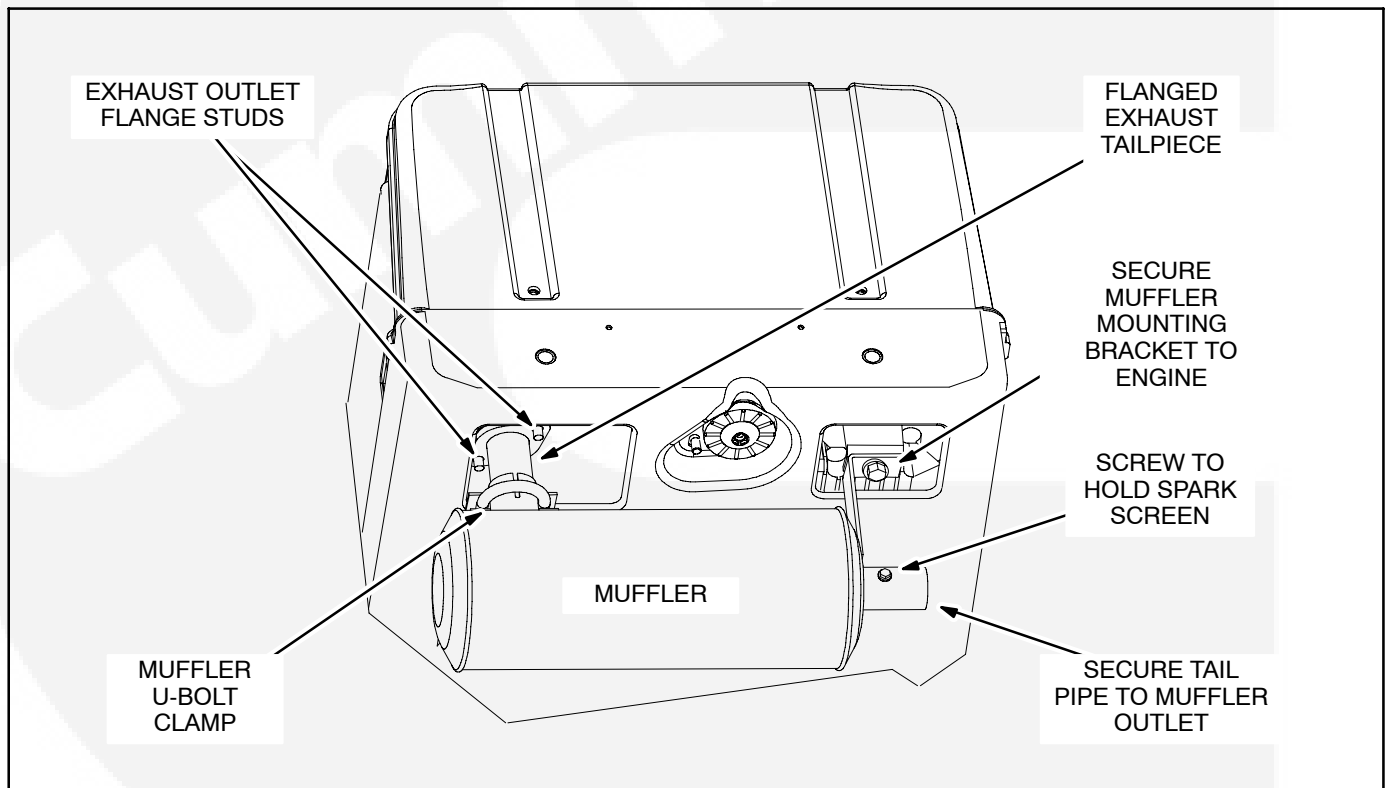

FIGURE 8-3. MODEL KVD MUFFLER
2. Loosen the clamp securing the tail pipe to the muffler and pull the tail pipe away (Figure 8-3).